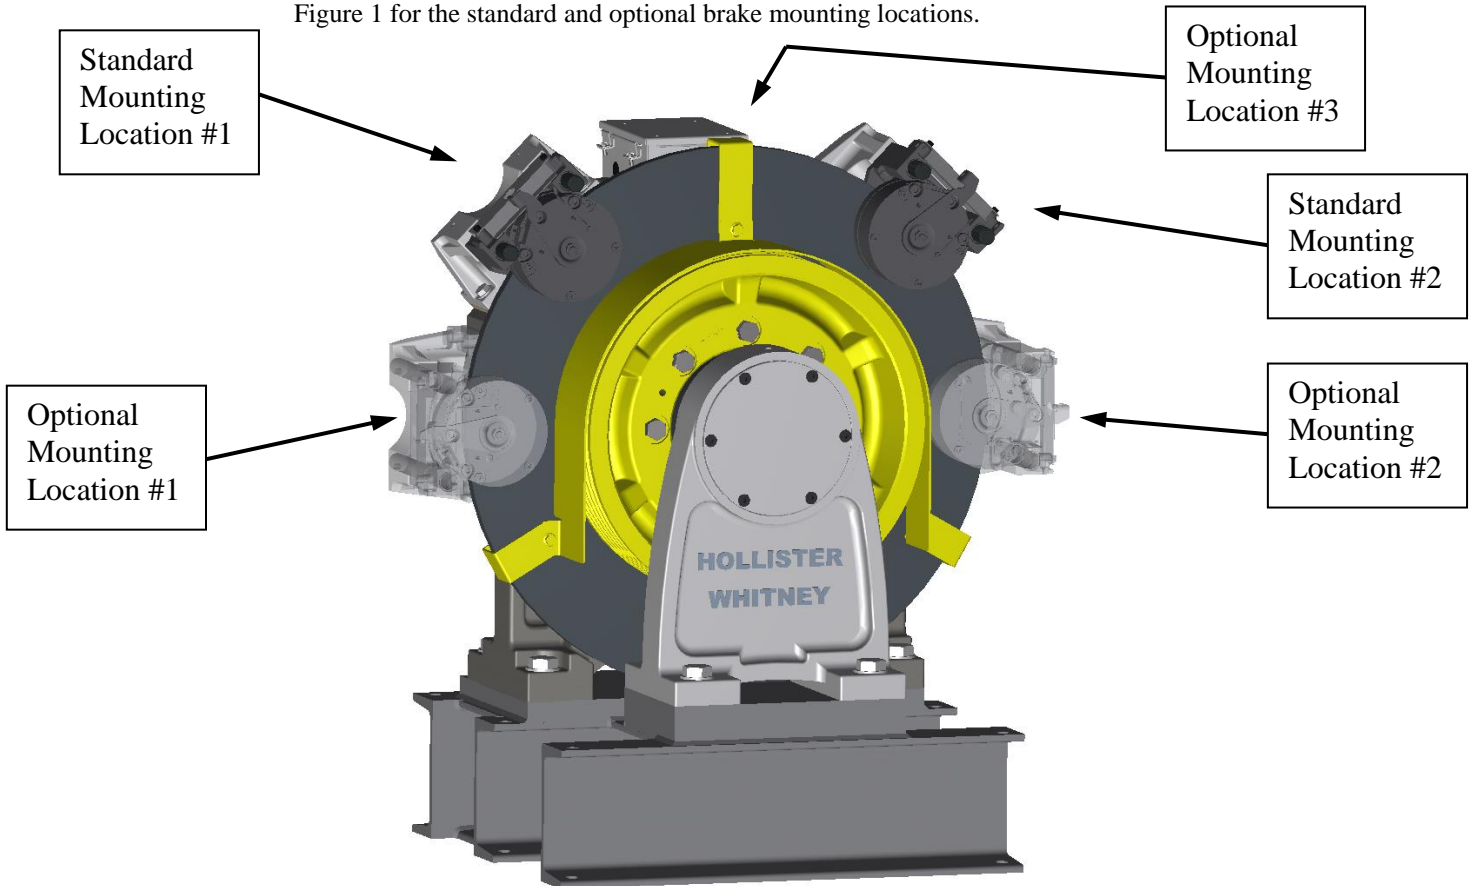

Figure 1 (4 brakes shown as representation only)
- The machine brakes may be mounted in up to 5 locations around the body of the machine to provide flexibility in machine placement and proximity to other equipment or walls. Refer to Figure 1 for the standard and optional brake mounting locations.
- If brakes are to be mounted using either of the optional mounting locations shown in Figure 1, mounting positions should be requested at the time of ordering. Brakes may be relocated in the field when necessary. Contact Hollister-Whitney for instructions.